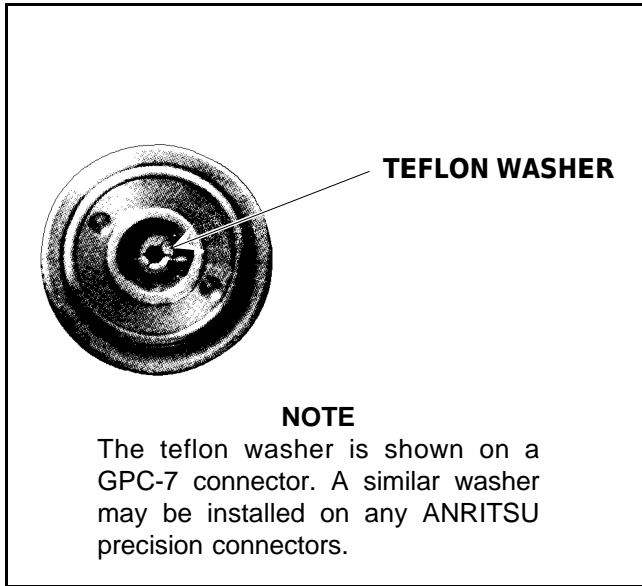

Figure 4. Tuning Washer on GPC-7 Connector
- c. Do Not Disturb Teflon Tuning Washers On Connector Center Pins.** The center conductor on many RF component connectors contains a small teflon tuning washer located near the point of mating (interface) (Figure 4). This washer compensates for minor impedance discontinuities at the interface. The washer's location is critical to the RF component's performance. *Do not disturb it.*
The beaded end connects to the test port of the SWR Autotester or bridge and holds the center conductor captive. The beaded end also fixes the plane of reference at the beadless end. A typical test setup for using the air line to measure return loss is shown in Figure 4.